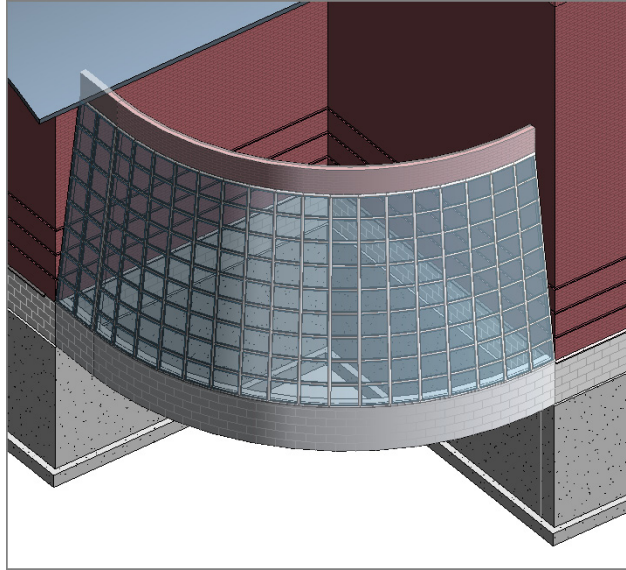

FIGURE 16.53: The completed system
8. Your wall system should look like Figure 16.53.